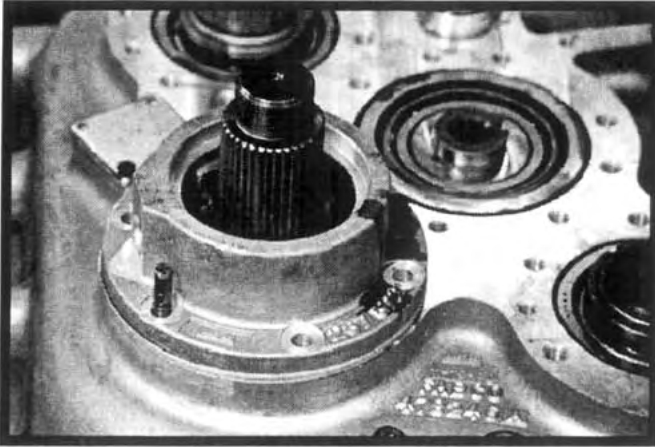

Figure 6.39
16. Temporarily install the rear output carrier with a shim pack thickness of .120 inch. See Figure 6.39.